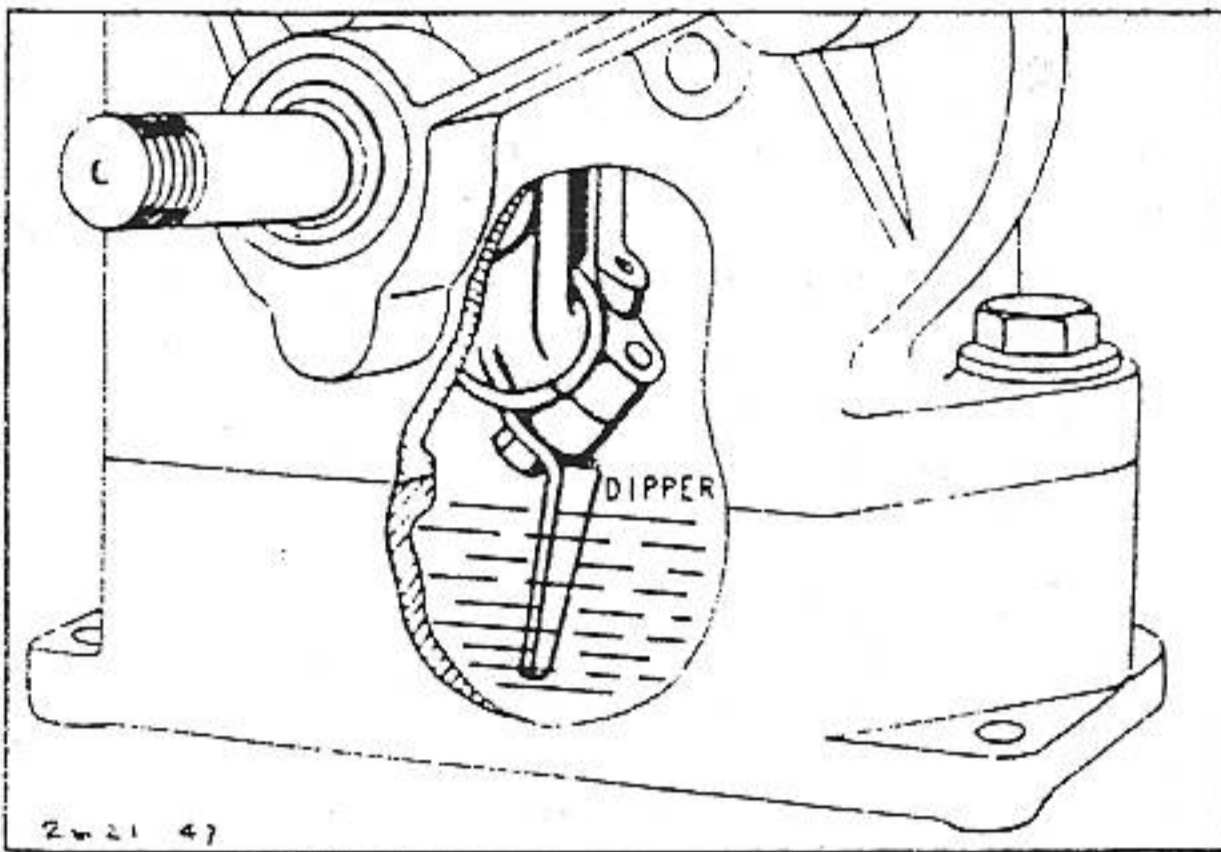

FIG. 172—SPLASH SYSTEM
In the Splash System, the dipper dips into the oil reservoir in base of engine. It has no pumps or moving parts. Fig. 172.
- ** - Splash System (See Fig. 172)